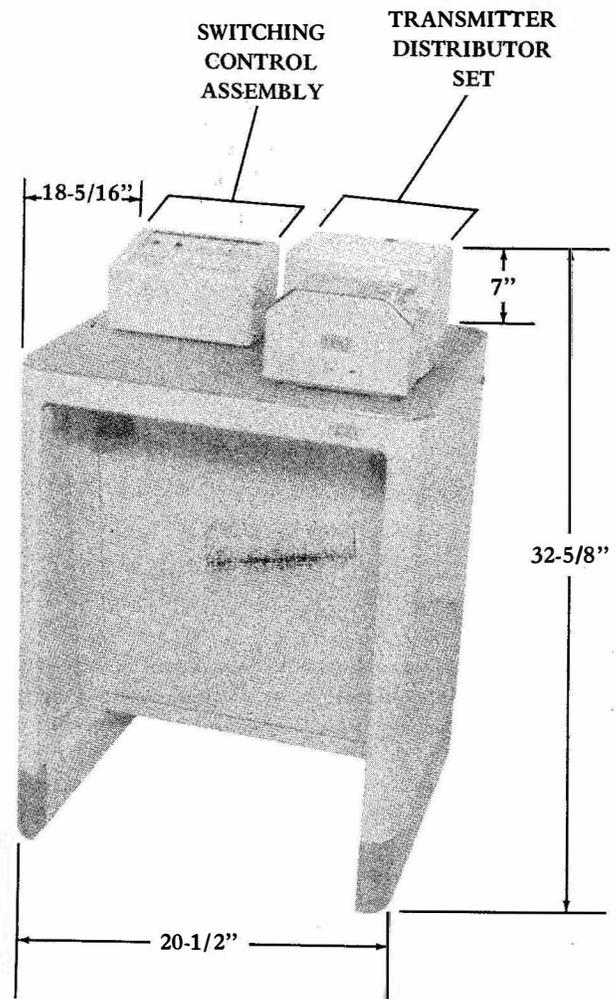

Figure 1 - Manual Message Address Segregator
1.02 The segregator is shipped from the factory completely assembled and ready to operate, except for unpacking and setting the switching control assembly and the transmitter distributor on top of the table as indicated in Figure 1, and as instructed in Part 2.
- 2.01 Place the table in the desired location. The space requirements are indicated in Figure 1.
- 2.03 Place the transmitter distributor and the switching control assembly on top of the table. Orientation of these two items, should be that preferred by the operator (Figure 1).